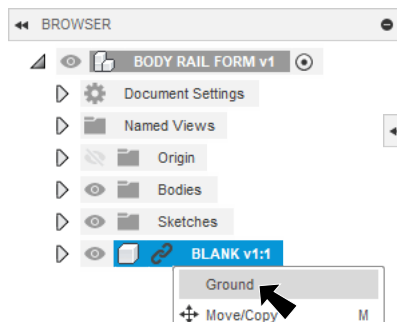

Fig. 3
Step 6. **Right click Blank**  in Browser and click **Ground**, Fig. 3.